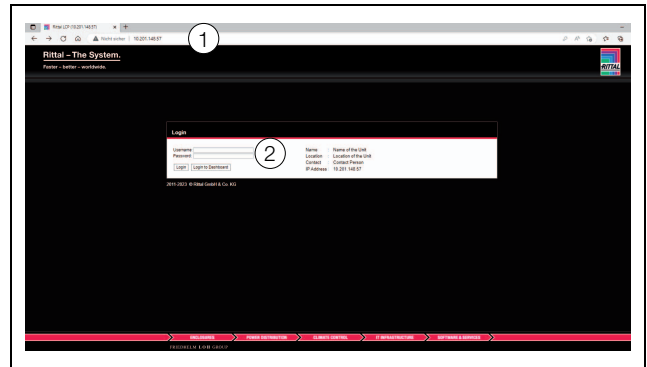

Fig. 93: Log-on screen with an HTTP connection
- In the browser, enter the address **http://192.168.0.190** (fig. 93, item 1). The log-on dialogue for registering the device will appear.
- Log in with the username **admin** and the password **admin** (fig. 93, item 2).